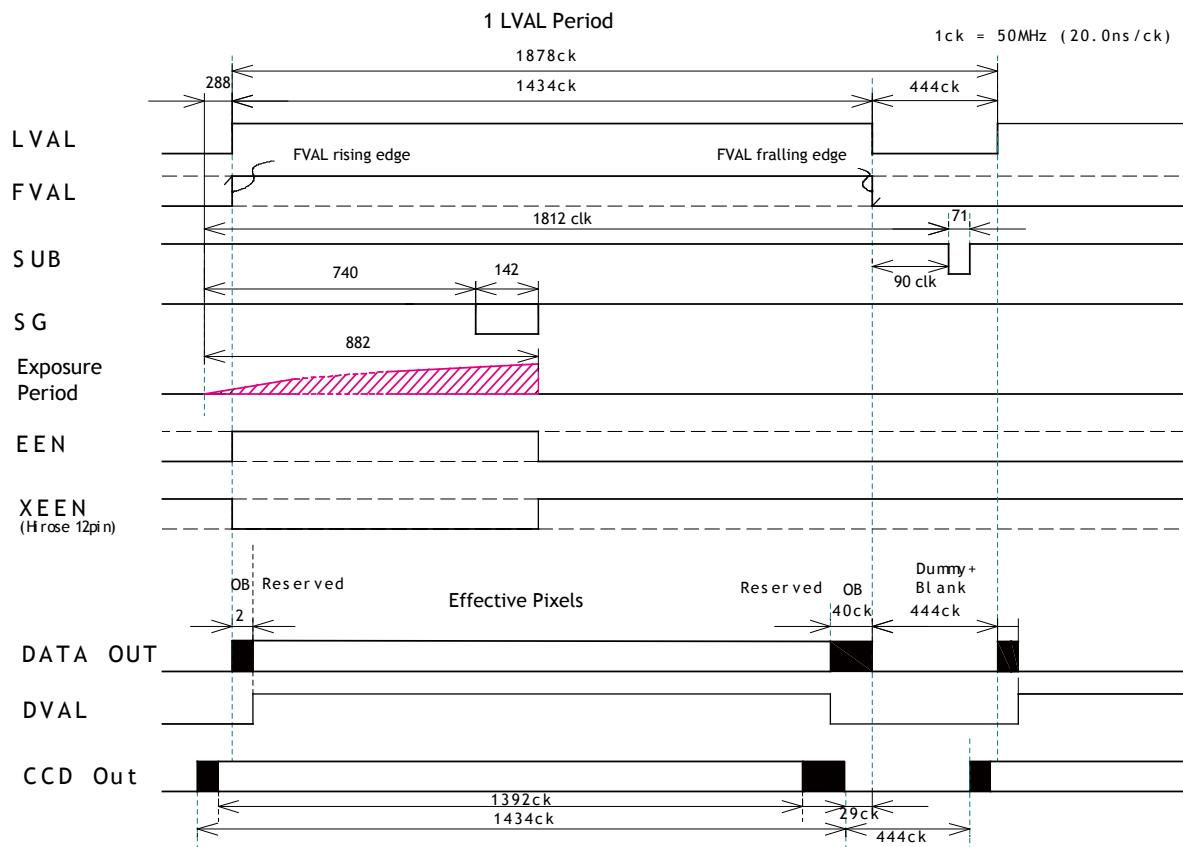
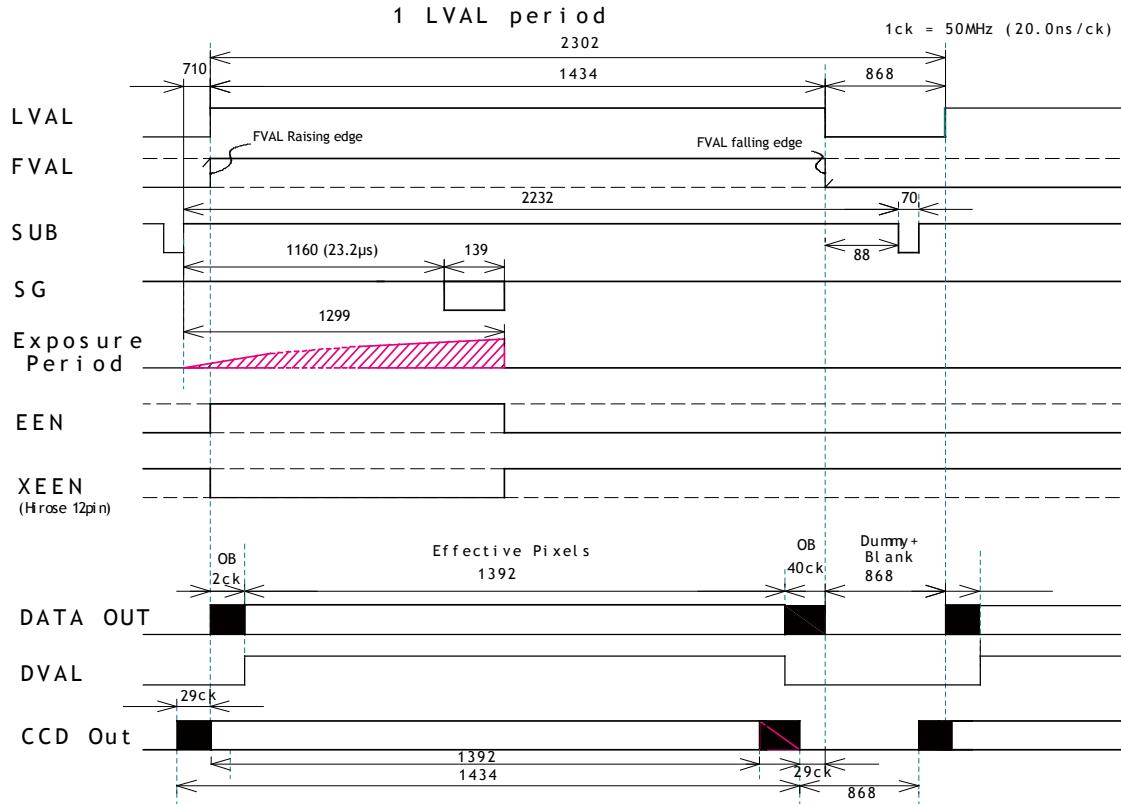
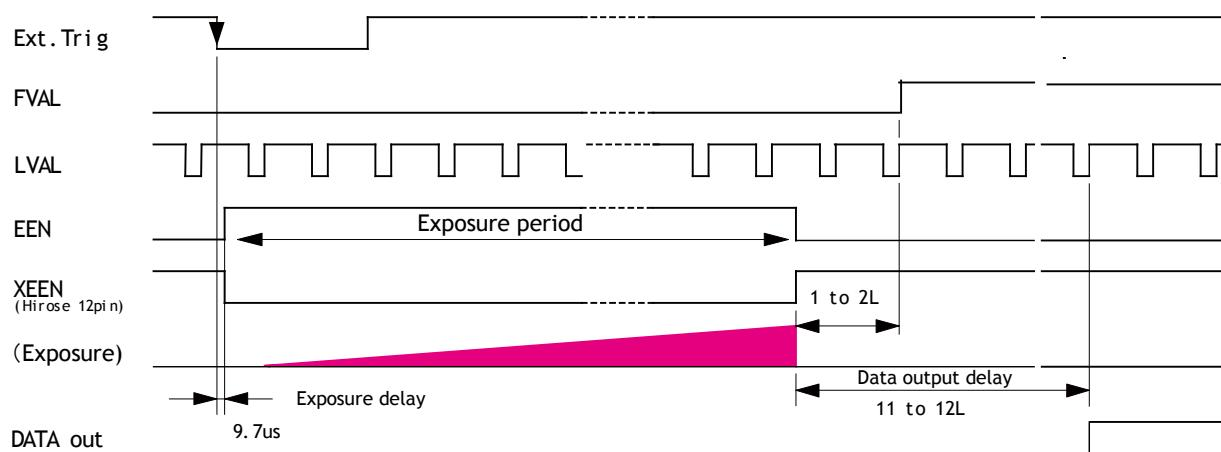

Fig. 26. Horizontal timing
Fig. 31 Horizontal timing for V binning.
Fig.34 Edge Pre-select LVAL ASYNC details
For timing details, refer to fig.26. through fig. 31.
*For timing details, refer to fig26 . through fig34.*